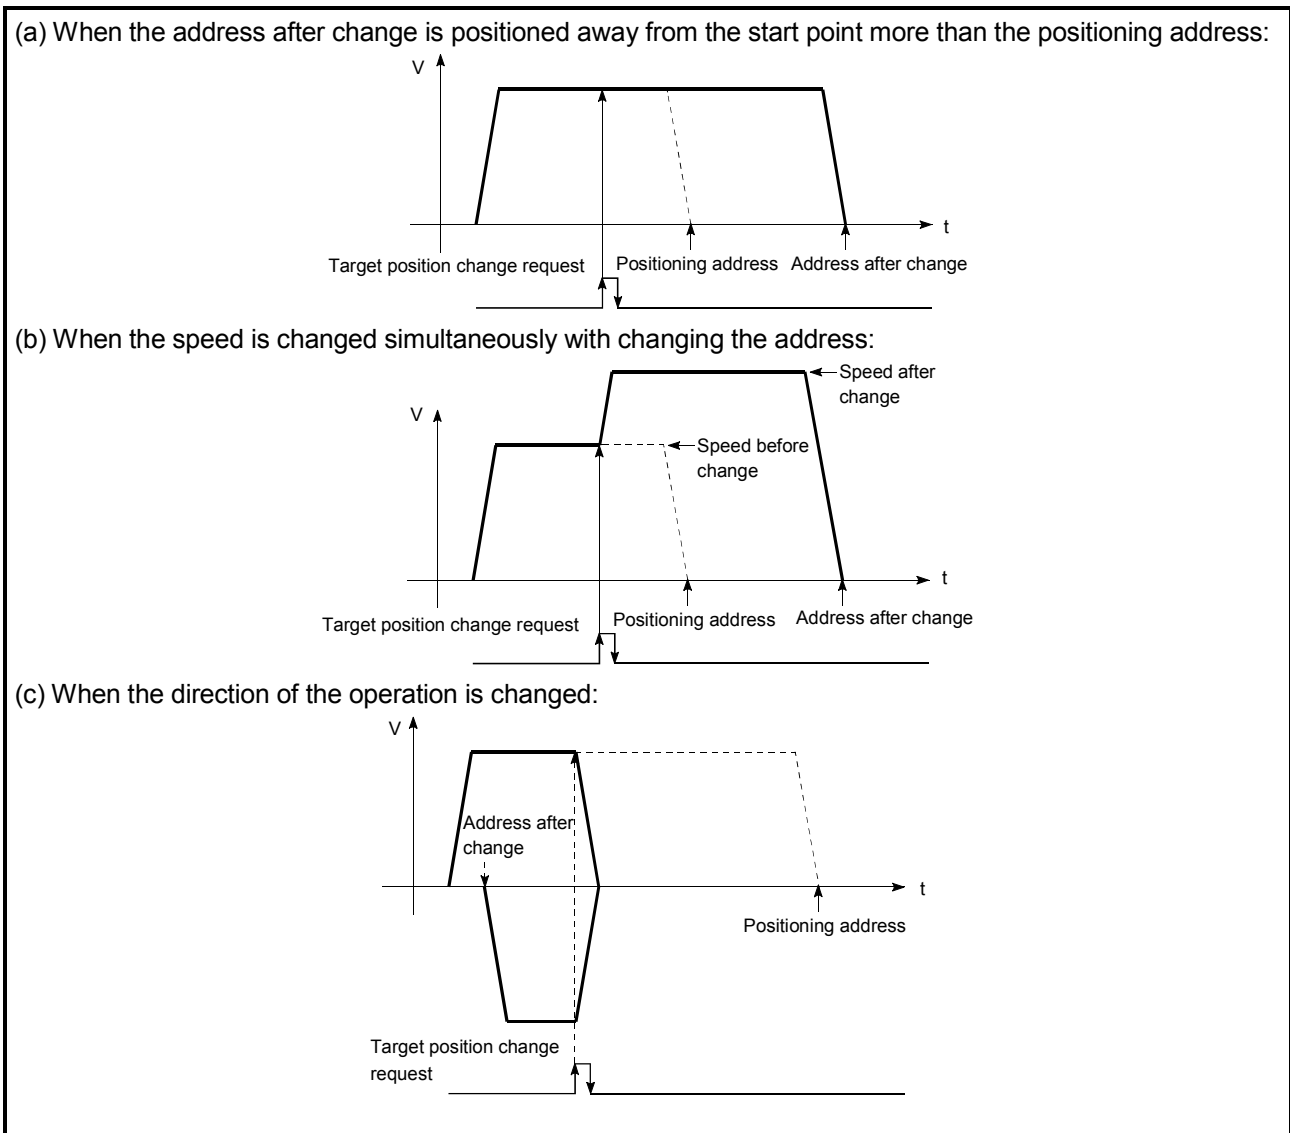

Fig. 13.33 Target position change operation
- (1) If the positioning movement direction from the stop position to a new target position is reversed, stop the operation once and then position to the new target position. (Refer to Fig. 13.33 (c).)
- (2) If a command speed exceeding the speed limit value is set to change the command speed, the warning "Speed limit value over" (warning code: 501) will occur and the new command speed will be the speed limit value. Also, if the command speed change disables the remaining distance to the target value from being assured, the warning "Insufficient remaining distance" (warning code: 509) will occur.
- (3) In the following cases, a target position change request given is ignored and the warning "Target position change not possible" (warning code: 518) occurs.
- (4) When a command speed is changed, the current speed is also changed. When the next positioning speed uses the current speed in the continuous positioning, the next positioning operation is carried out at the new speed value. When the speed is set with the next positioning data, the speed becomes the current speed and the operation is carried out at the current speed.
- (5) When a target position change request is given during automatic deceleration in position control, positioning control to a new position is exercised after the axis has stopped once if the moving direction is reversed. If the moving direction is not reversed, the axis is accelerated to the command speed again and positioned to the new position.
- (6) If the constant speed status is regained or the output is reversed by a target position change made while "[Md.48] Deceleration start flag" is ON, the deceleration start flag remains ON. (For details, refer to Section 13.7.8.)